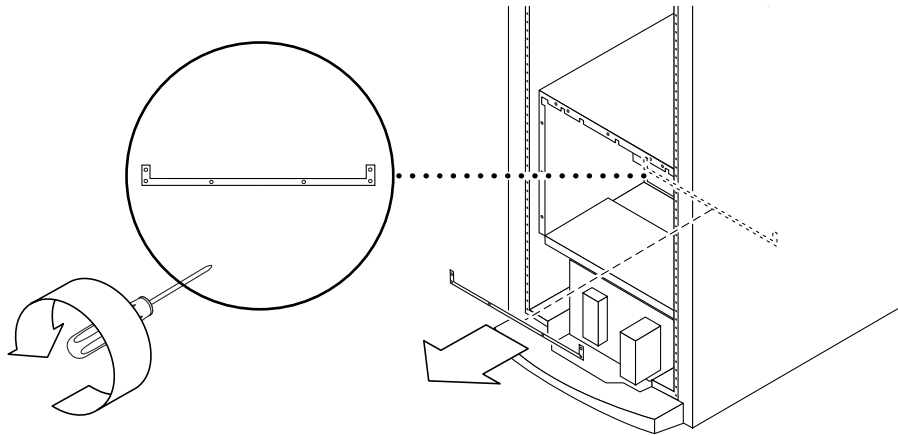

FIGURE 12-33 Removing the Lower Bulkhead
12. Remove the six screws of the lower bulkhead with a long-shaft Phillips no. 2 screwdriver (FIGURE 12-33). Remove the lower bulkhead.
3. **Install the lower bulkhead (FIGURE 12-33).**